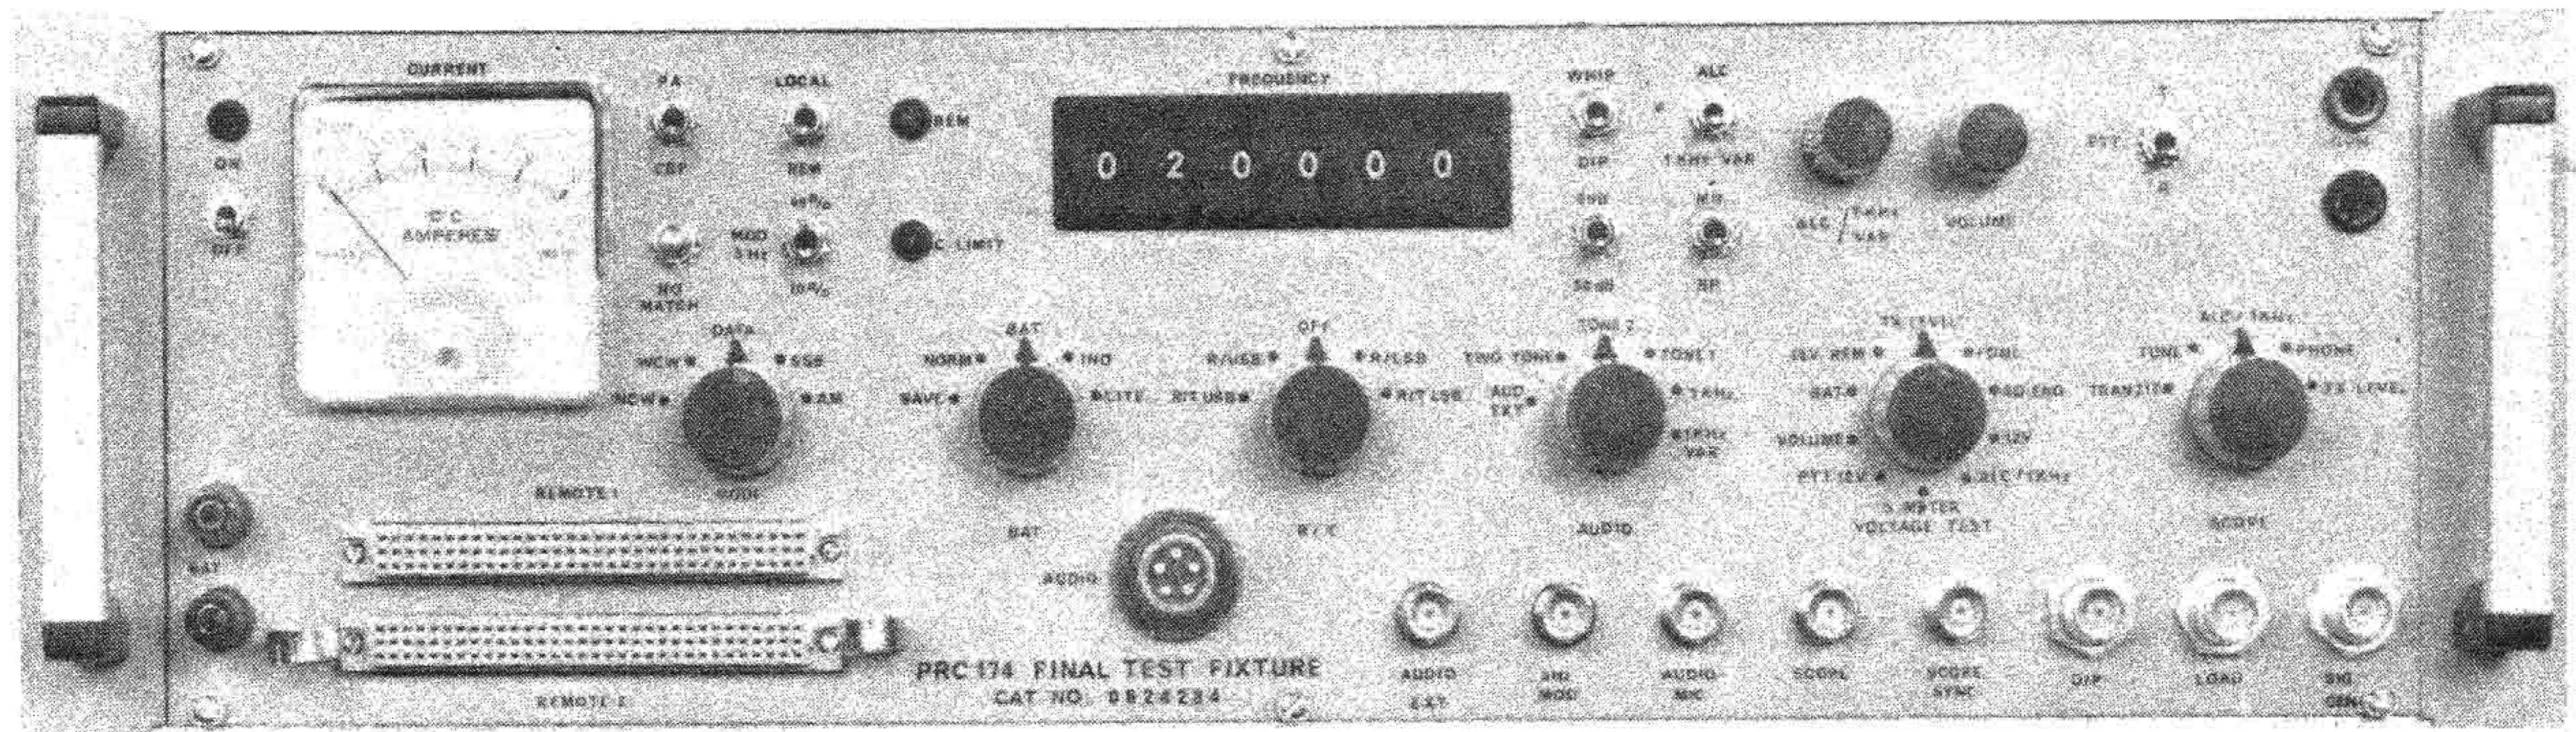

Fig. 4-1. Final Test Fixture, View of the Front Control Panel
4-2. Test Equipment and Additional Equipment Required for General Support Testing of RT-936/PRC-174 (fig. 4-1, 4-2, 4-3)
(1) Final test fixture for RT-936/PRC-174 (fig. 4-1, 4-2). This test fixture provides for connection of test equipment to the RT-936/PRC-174 under test, controls the unit-under-test (UUT) and generates several test signals.